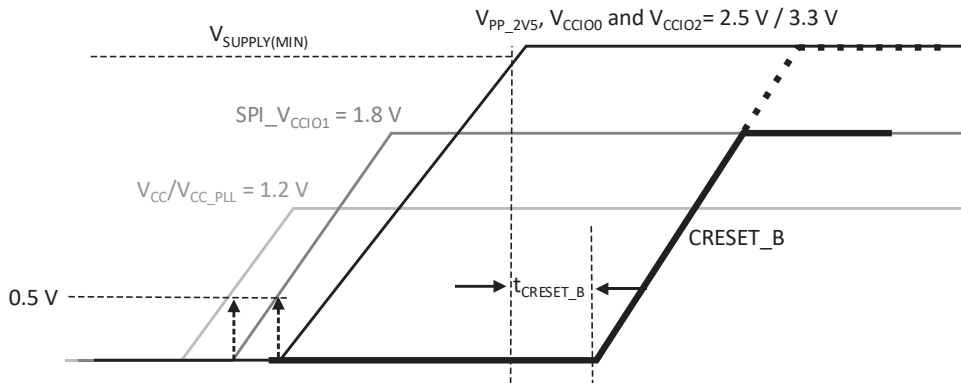
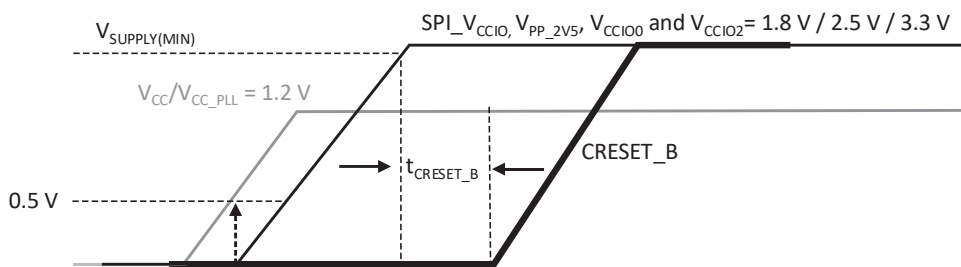

Figure 4.1. Power Up Sequence with SPI\_VCCIO1 and VPP\_2V5 Not Connected Together
Figure 4.2. Power Up Sequence with All Supplies Connected Together
**Note:** To check the  $V_{\text{SUPPLY(MIN)}}$  shown in Figure 4.1, please refer to the minimum recommended operation conditions in Recommended Operating Conditions section.
Figure 4.1 shows Power-Up sequence when  $SPI\_V_{CCIO1}$  and  $V_{PP\_2V5}$  are not connected together, and the  $CRESET\_B$  signal triggers configuration download. Figure 4.2 shows when  $SPI\_V_{CCIO1}$  and  $V_{PP\_2V5}$  connected together. If the supply sequence is not followed, extra peak current may be observed on the supplies during power up.